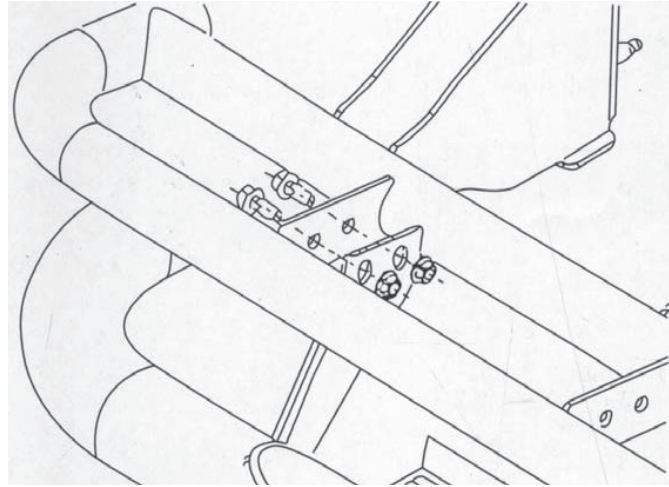

Figure 1
1. Begin installation by working on the driver-side of the vehicle, see figures 1 and 2.